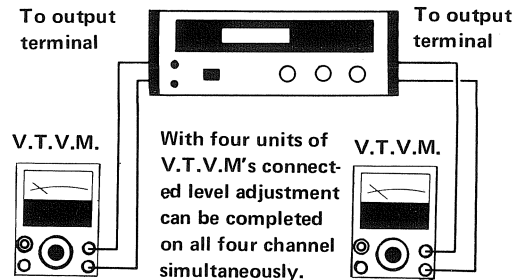

Fig. 20
1. Connect the V.T.V.M.'s to the output terminals (Fig. 20).